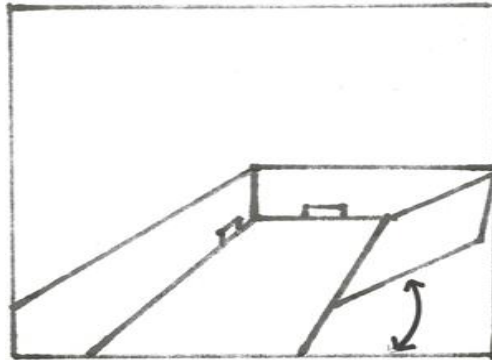

FIGURE 4
- Insert the second row by sliding the long joint tongue into the groove of the plank in the first row. (Figure 4) Pull the plank towards the previously installed row until it is fully engaged. Install the second piece the same way, butting it to the first piece and engaging it the same way as the short side drop-lock in row one. Be certain to allow a minimum of 8” between end joints on the adjacent plank. The shortest starting or ending plank should not be less than 8” in length.